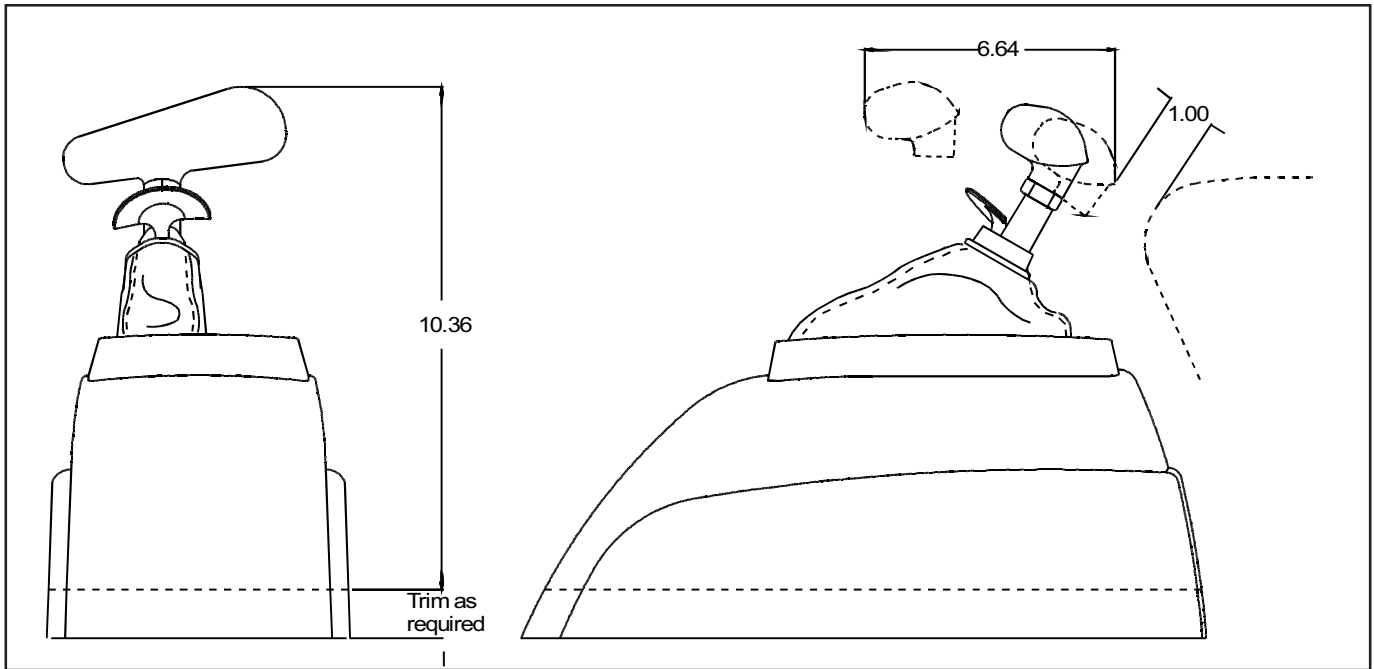

Figure 2
STEP 2. Pull the carpet away from the floorboard where the shifter is to be mounted. If the vehicle has a bench type seat, move seat to the full forward position. Place the shifter on the floor with the stick shifted to the rearmost gate position. Locate the shifter for ease and convenience of operation, See **figure 2**. Make sure the trigger and T-handle clear the dash with the shifter in the "**Park**" position. Mark the position of four mounting holes on the floor.